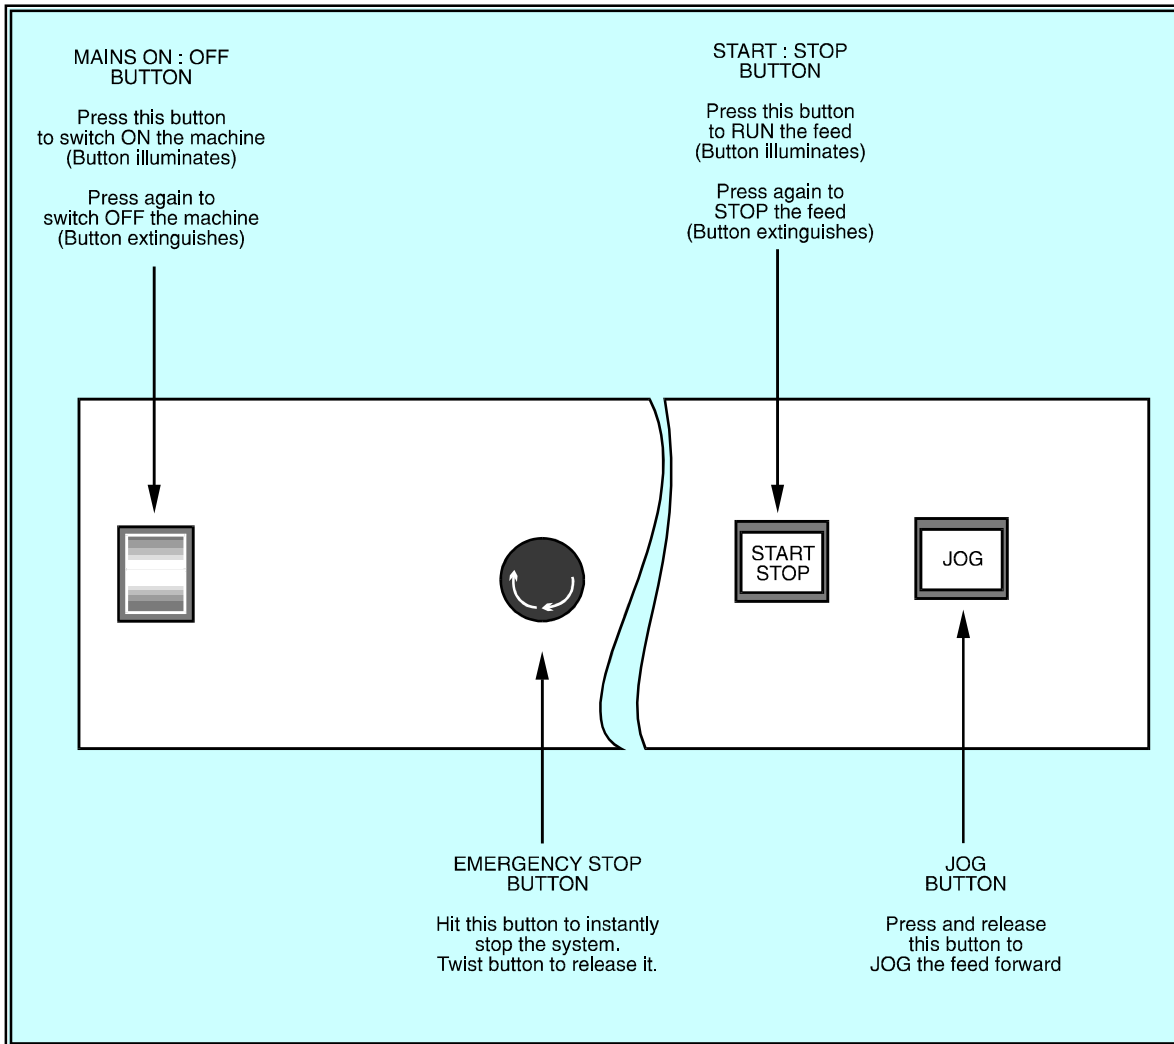

Fig 1.2 Summary of Controls
- Fig 1.2 describes the functions of the operating controls.